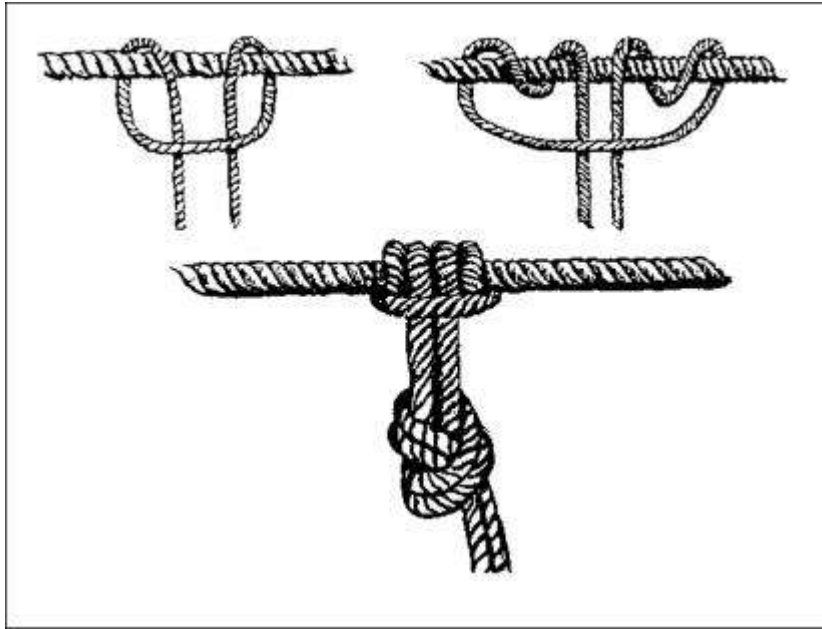

Figure 7-18. Middle-of-the-rope prusik knot.
(1) *First method.* The prusik knot is tied at the middle or end of a rope; there are many ways to do this (Figure 7-18). The middle-of-the-rope prusik knot can be tied with a short rope to a long rope as follows: